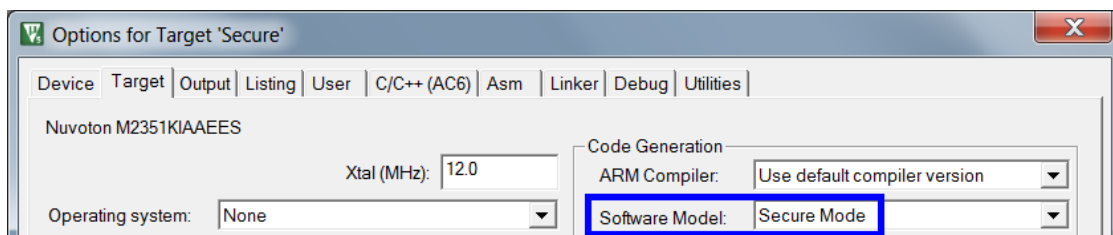

Figure 2-2 Check Software Model in Keil® MDK
- Click [Options for Target – Target] as shown in Figure 2-2, and the first developer must check if the Software Model is in Secure Mode.